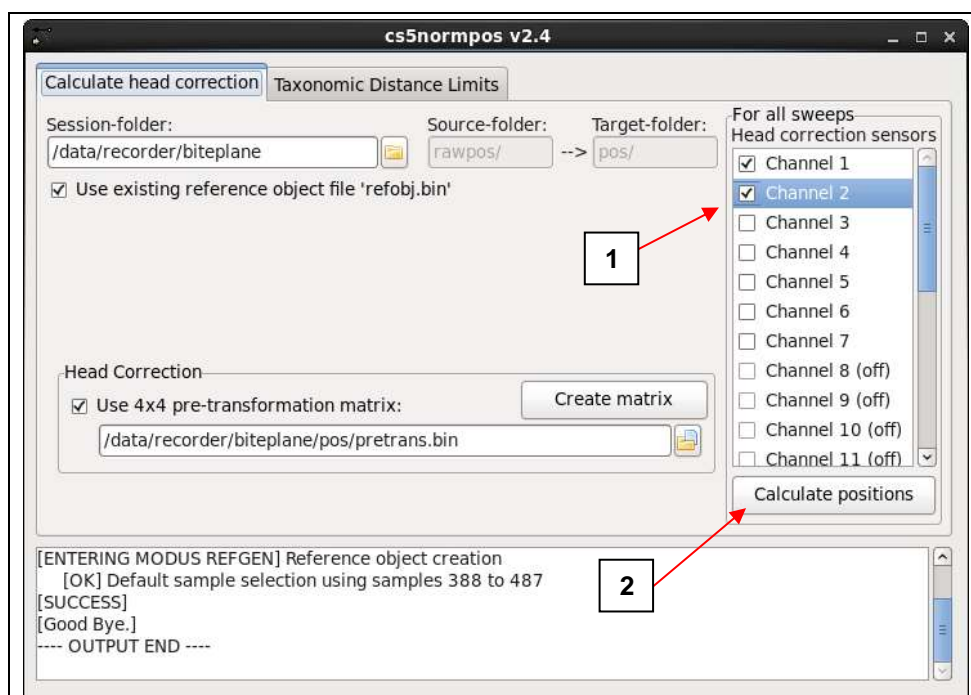

Figure II-5: Select the reference sensors (1) for head correction and start the position calculation (2)
- Select the head correction sensors (reference sensors and start the position calculation (Figure II-5).